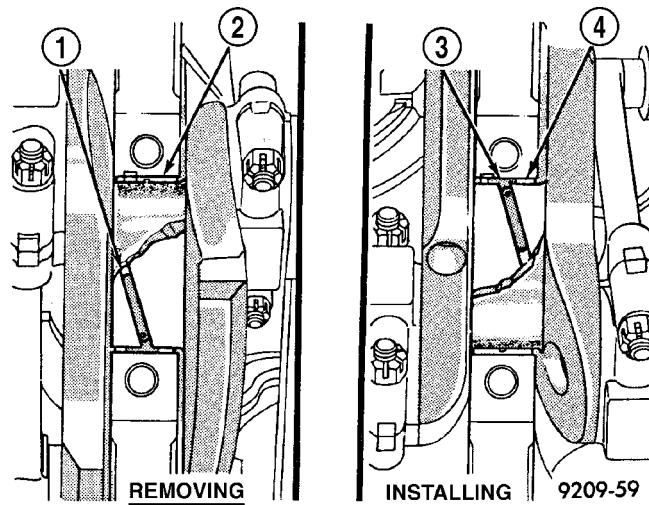

Fig. 72 Upper Main Bearing Removing/Installing With Special Tool C-3059
(1) Remove the oil pan. (Refer to 9 - ENGINE/LUBRICATION/OIL PAN - REMOVAL)
(2) Identify main bearing caps before removal.
(3) Remove bearing caps one at a time. Remove upper half of bearing by inserting Special Main Bearing Tool C-3059 (Fig. 72) into the oil hole of crankshaft.
(4) Slowly rotate crankshaft clockwise, forcing out upper half of bearing shell.
(1) For main bearing fitting procedure, (Refer to 9 - ENGINE/ENGINE BLOCK/CRANKSHAFT MAIN BEARINGS - STANDARD PROCEDURE)
(2) Start bearing in place, and insert Main Bearing Tool C-3059 into oil hole of crankshaft (Fig. 72).